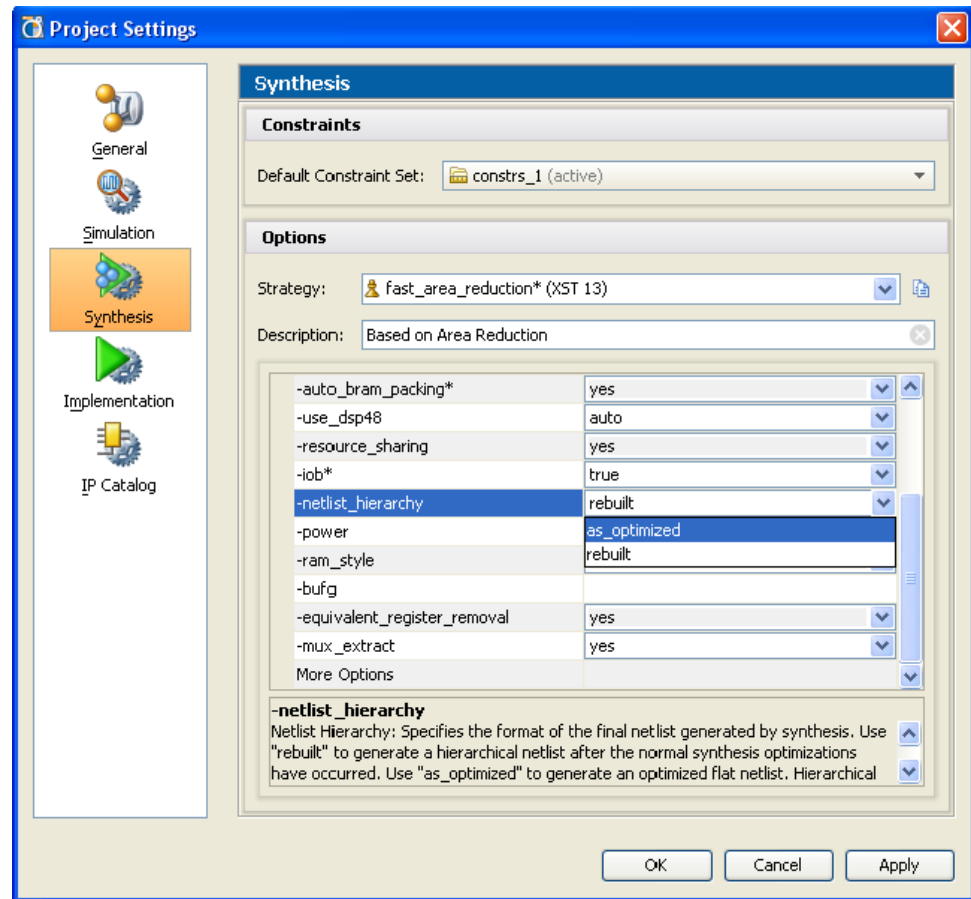

Figure 6-1: Synthesis Project Settings
- **Tools > Project Settings**, and click the **Synthesis** icon on the left-hand side of the Project Settings dialog box as shown in Figure 6-1, page 199.
If you encounter problems with this option in XST, set the `-netlist_hierarchy` option to **as\_optimized** in the Synthesis Settings dialog box, as shown in Figure 6-1, page 199.